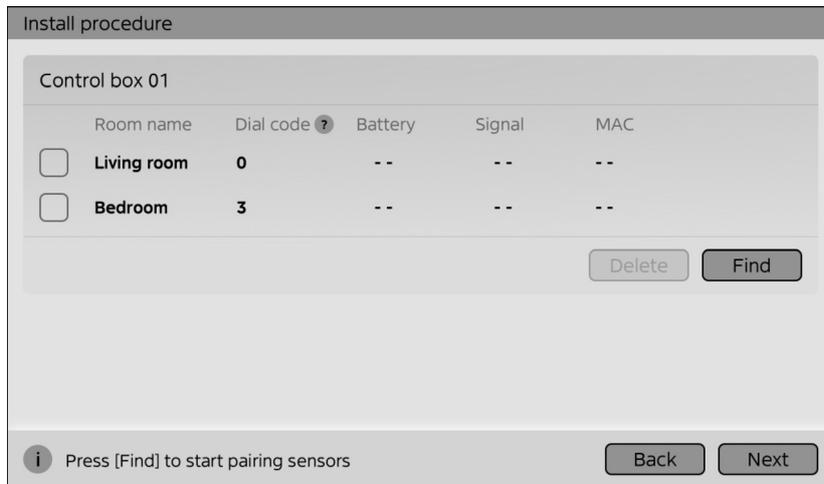

Fig 1.8
13. After all sub-controllers have been found, please verify that the **[MAC]** address displayed matches the MAC address printed on each sub-controller (refer to Fig 1.8).